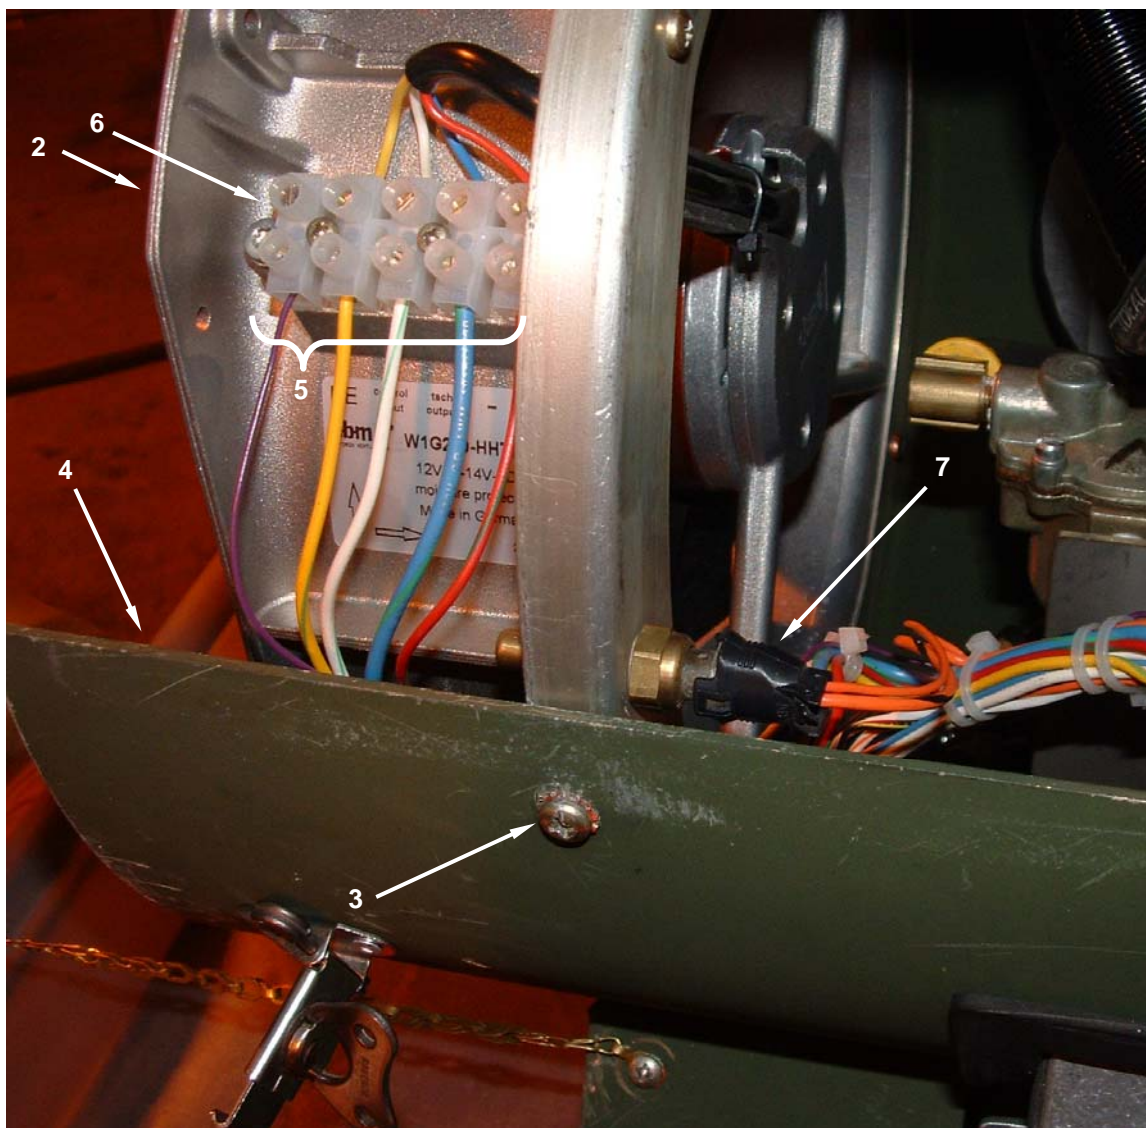

Figure 3. Replace the Electronic Box Assembly, Complete With Wire Harness – Remove the Heated Air Blower (Continued).
3. Remove three screws (**Figure 3, Item 3**) that secure the heated air blower assembly (**Figure 3, Item 2**) to lower assembly (**Figure 3, Item 4**).
4. Tag wires (**Figure 3, Item 5**) on both sides of terminal connector (**Figure 3, Item 6**) to ensure proper replacement.
5. Loosen terminal screws inside the air blower assembly connectors (**Figure 3, Item 6**); disconnect wires (**Figure 3, Item 5**) from heated air blower assembly. Pull wires from the heated air blower assembly (**Figure 3, Item 2**).
6. Disconnect the inlet air temperature sensor (**Figure 3, Item 7**).
7. Remove the heated air blower assembly (**Figure 3, Item 2**).